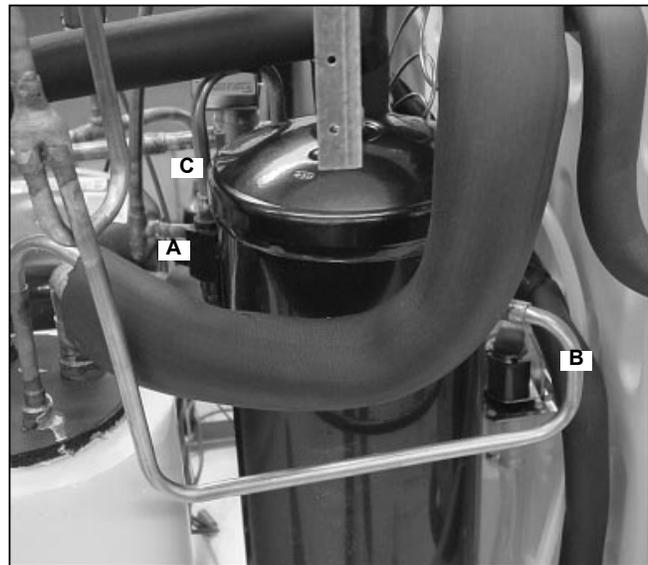

FIGURE 38
Braze the Liquid Line with Filter Drier to the receiver outlet (C) (FIGURE 38).